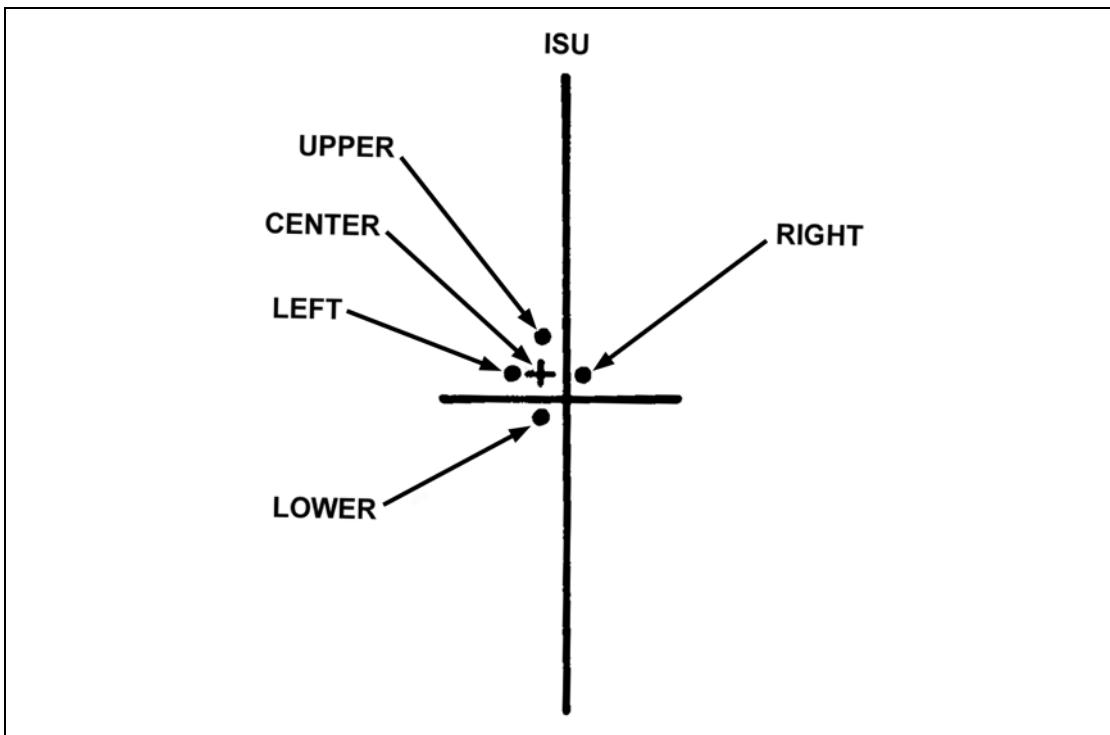

Figure B-46. Reticle centered between left, right, and lower limits.
(3) Adjust the browpad (Figure B-46, page B-34). When the panel is 100 to 150 meters away, head movement on the browpad changes the aim of the reticle. For example, moving the head to the left shifts the aim to the left. Correct adjustment of the browpad is important.